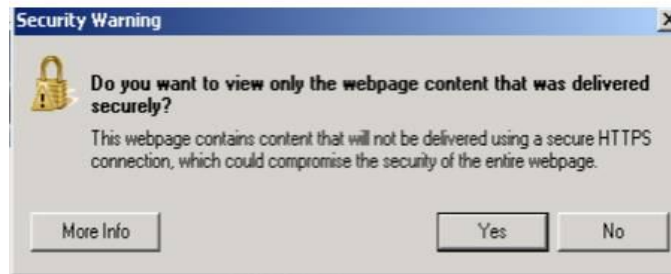

Fig. 1 Pop-up Security Message
3. If a security message appears “Do you want to view only the web page content that was delivered securely?” see (Fig. 1). Press “NO” to continue.